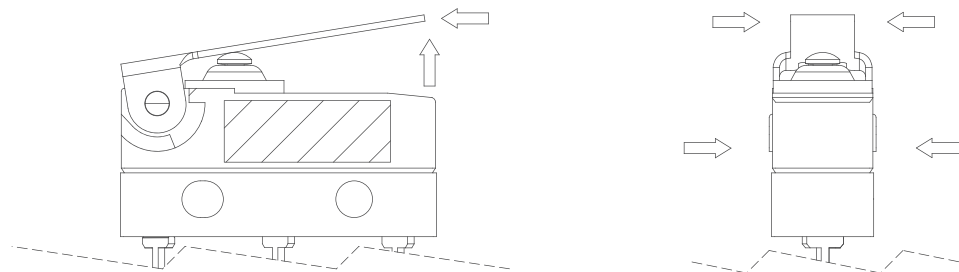

Figure-1
3. To ensure the best performance of the switch, when handling/installing the switch, please do not apply uneven pressure to the direction indicated by the arrow in (Figure -1). Any uneven pressure or pressure direction other than the operating direction might be harmful or damage the switch performance.